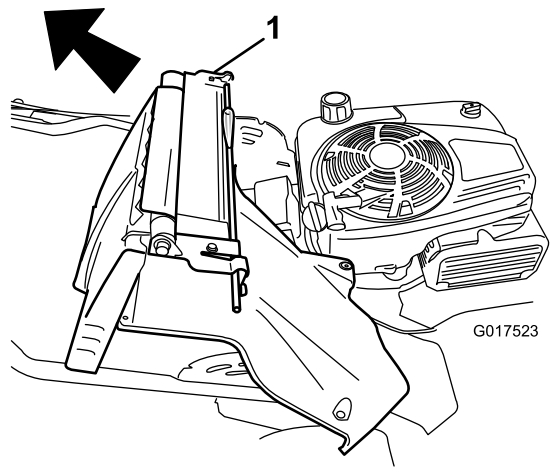

Figure 36
7. Remove the rear door and handle-lock lever assembly (Figure 36).